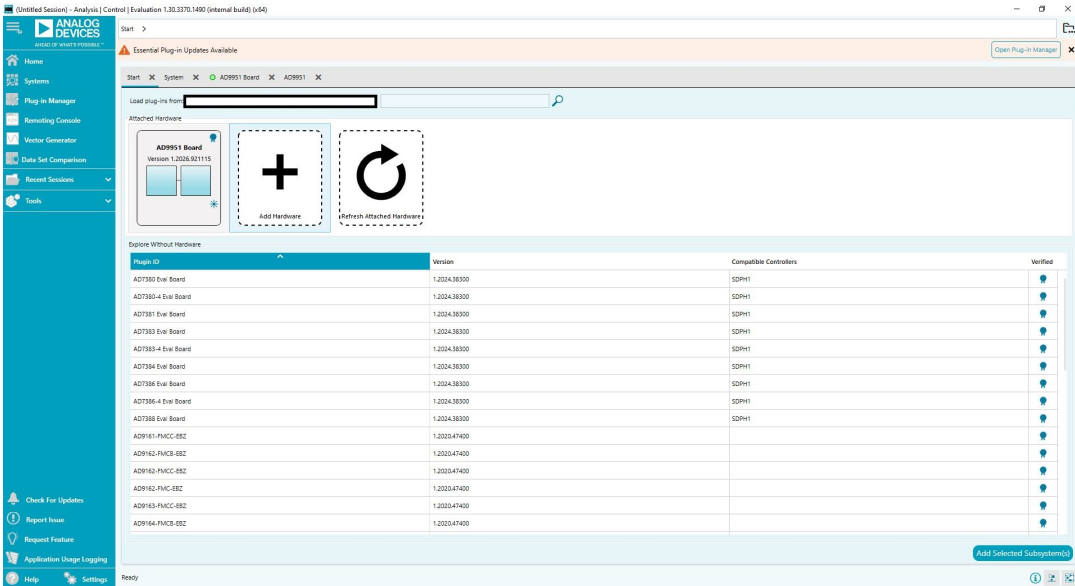

Figure 3. ACE Main Window, Attached Hardware (AD9951 Evaluation Board)
2. Under the **Select Device and Connection** tab within the **ACE Software**, select the **AD9951 Board** that appears within the **Attached Hardware** section (see Figure 3).